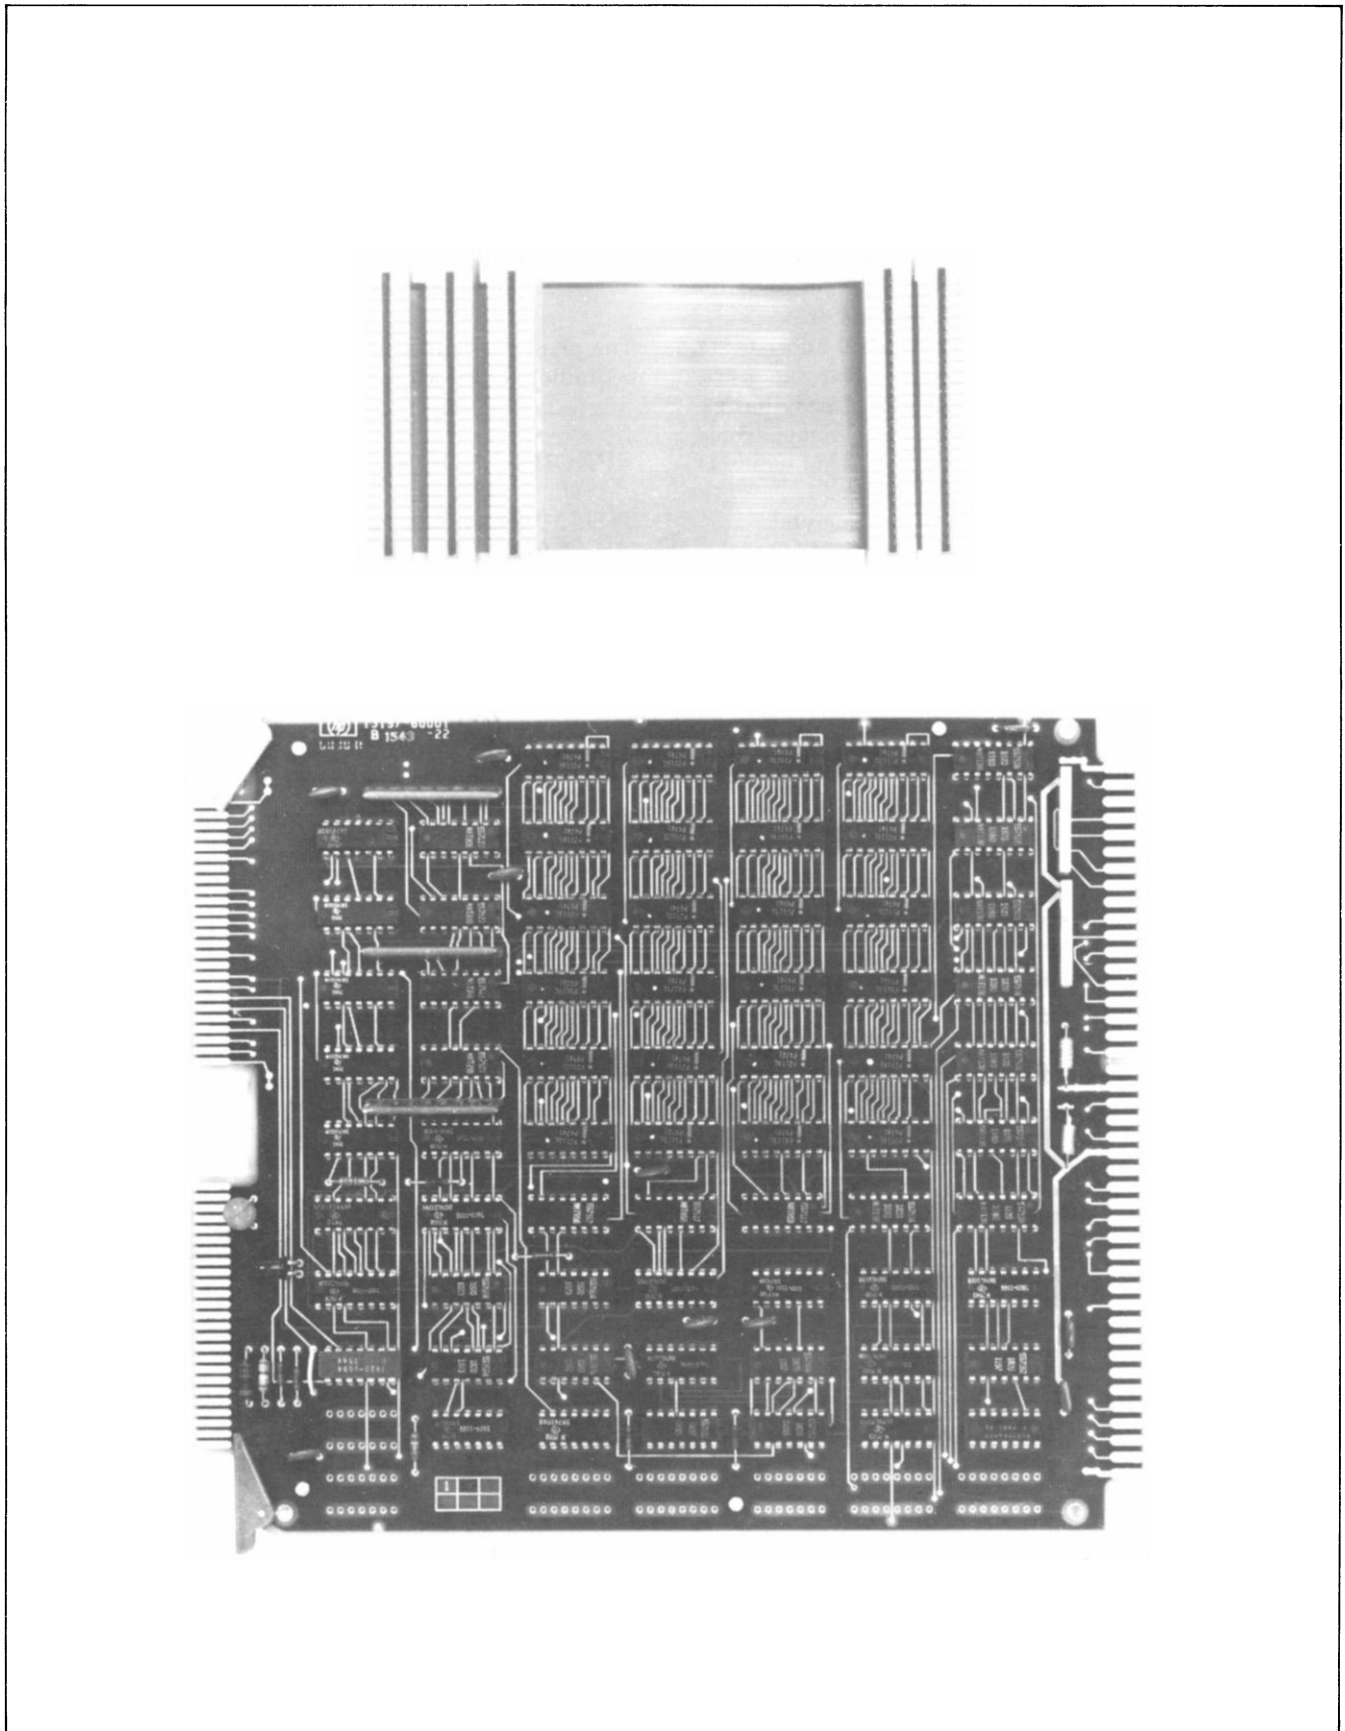

Figure 3-1. HP 13197A Writable Control Store Kit
- The printed circuit assembly and ribbon cable assembly contained in the kit are shown in figure 3-1.